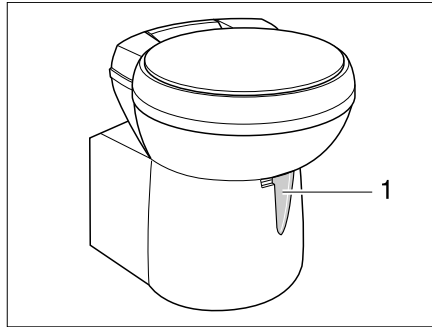
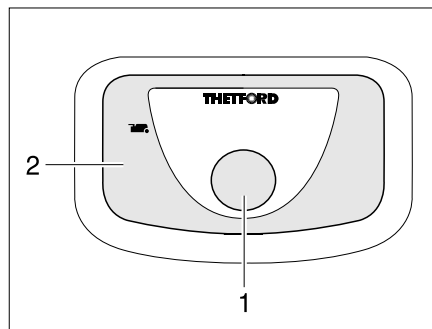

Fig. 361 Thetford toilet bowl, swivelling
Fig. 362 Flush button/indicator lamp
- Before flushing open the sliding trap of the Thetford toilet. To do this, push the slide lever (Fig. 361,1 or Fig. 362,1) in an anticlockwise direction.
- For flushing, press the blue flush button (Fig. 361,1 or Fig. 362,1).
The indicator lamp (Fig. 361,2 or Fig. 362,2) goes on whenever the Thetford cassette has to be emptied.
- Push the slide lever (Fig. 361,1 or Fig. 362,1) in a clockwise direction. The sliding trap is closed. To empty, the sliding trap in the Thetford toilet **must** be closed.